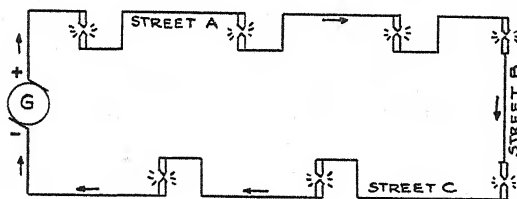

FIG. 6. Series arc lights for street lighting.
11. **Series Circuits.** There are many practical examples of series circuits. Strings of the smaller variety of colored lights for Christmas decorations are usually connected in series. Arc lights for street and highway illumination are connected in series. In Figure 6, a typical series-lighting diagram is shown.
Figure 6 shows the general idea of series circuits. Whatever current flows through one part of this circuit (or any other series circuit), must pass through all the other series parts. This is because a series circuit has only one path for the current. In the diagram in Figure 6 it is shown that if 100 electrons leave the + side of the generator, the same 100 electrons finally must
Now, suppose each street light causes the electric pressure (e.m.f.) behind the current to lose 20 volts ( $IR$  drop). Then, in passing through the 7 arcs shown in the Figure 6 circuit, the total voltage lost would be  $20 \times 7$ , or 140 volts. Therefore, even if no further voltage drop occurred in the long wires on poles between lamps, generator  $G$  would have to supply at least 140 volts to keep the current flowing in the circuit. Less than 140 volts would cause the arcs to sputter or not light at all. More than 140 volts would burn the carbons too much and cause lamp failures. And if one part of a series circuit burns out, none of the other parts have current. What happens when one lamp in a series Christmas-tree "string" burns out? The same thing is true of all series circuits.